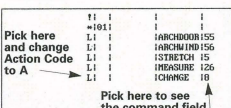

Figure 2
Figure 2 you want to create it. You repeat do Part 1 or at least copy the c:\sp\menu\tool_2dkey file naming it newkey and then you must do step 3. I highly recommend that you do Part 1 first if you are not thoroughly familiar with the DOS text editor and Data/CAD/DOS operations.
1. Move the cursor to the Command field, shown in Figure 2, and pick at the beginning of this field, right after the symbol (I).